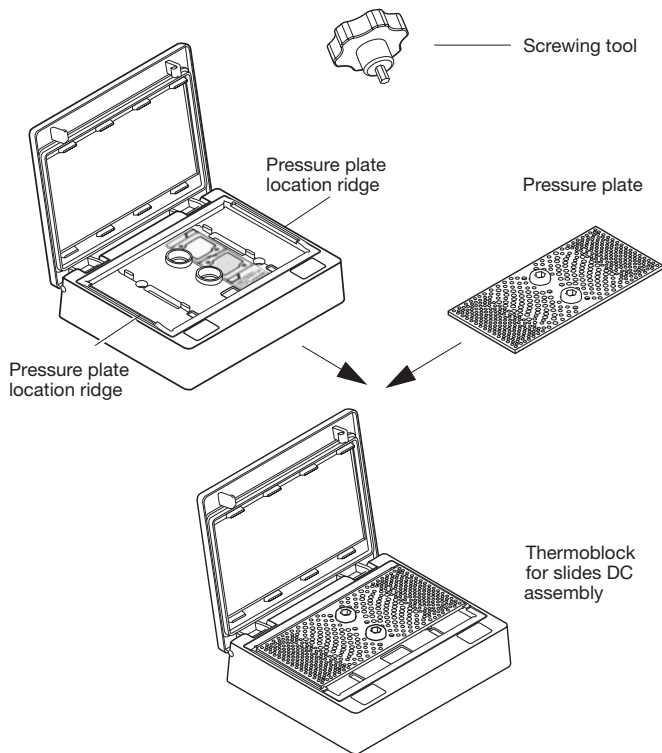

Figure 3: Schematic drawing of the Thermoblock for slides DC assembly and the screwing tool.
5. Position the pressure plate on top of the Thermoblock for slides DC and push it firmly into the location ridges. Hold both plate and thermoblock tightly and alternately fasten both screws completely using the screwing tool (Figure 3).